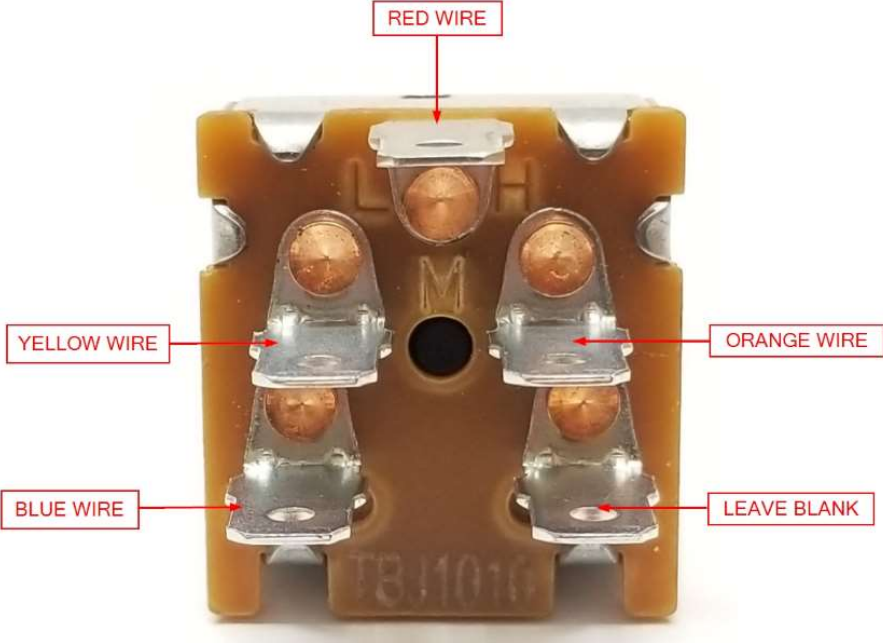
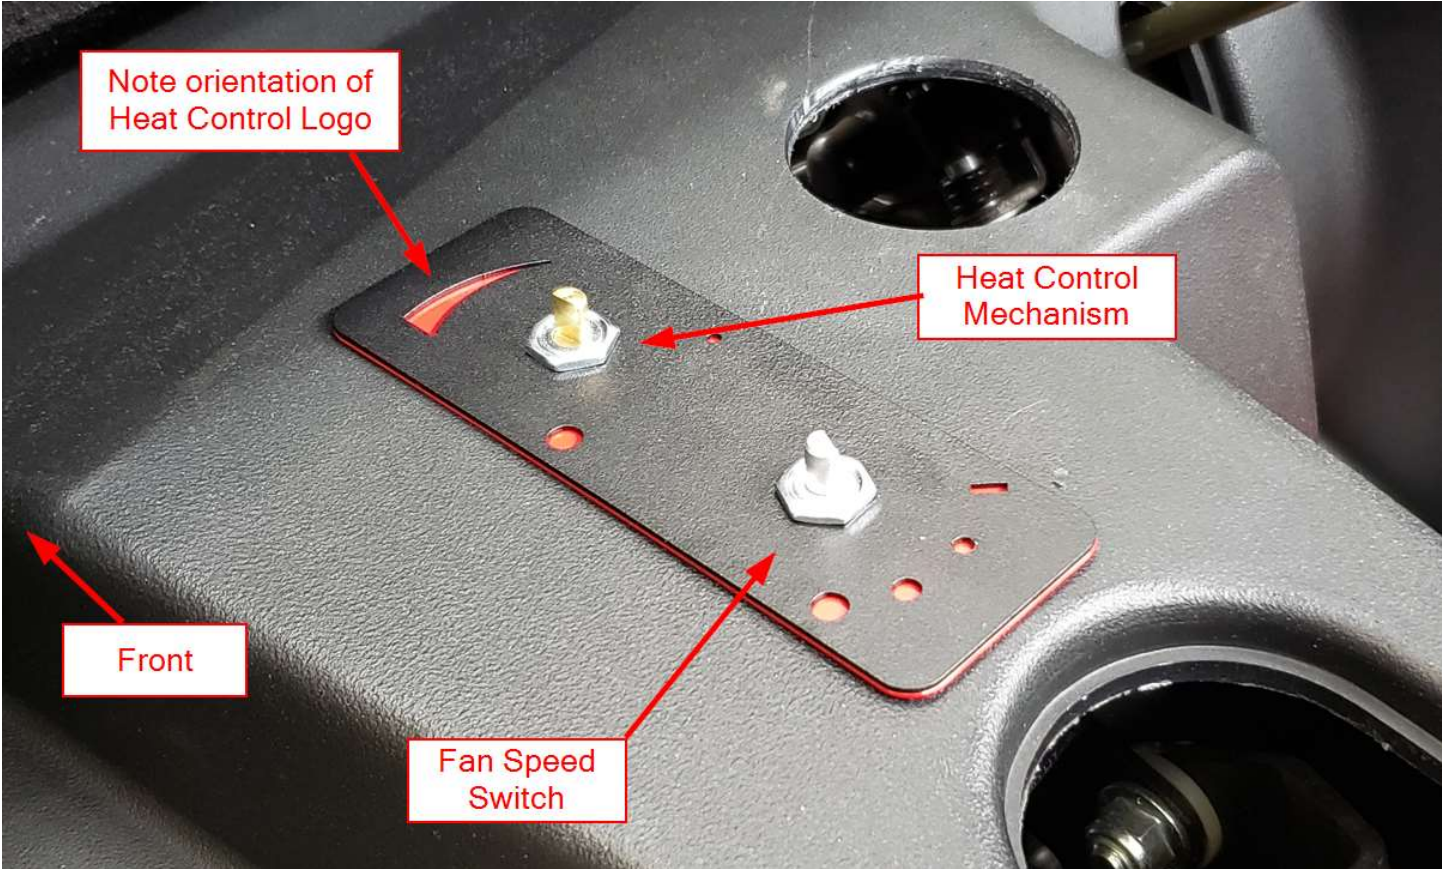
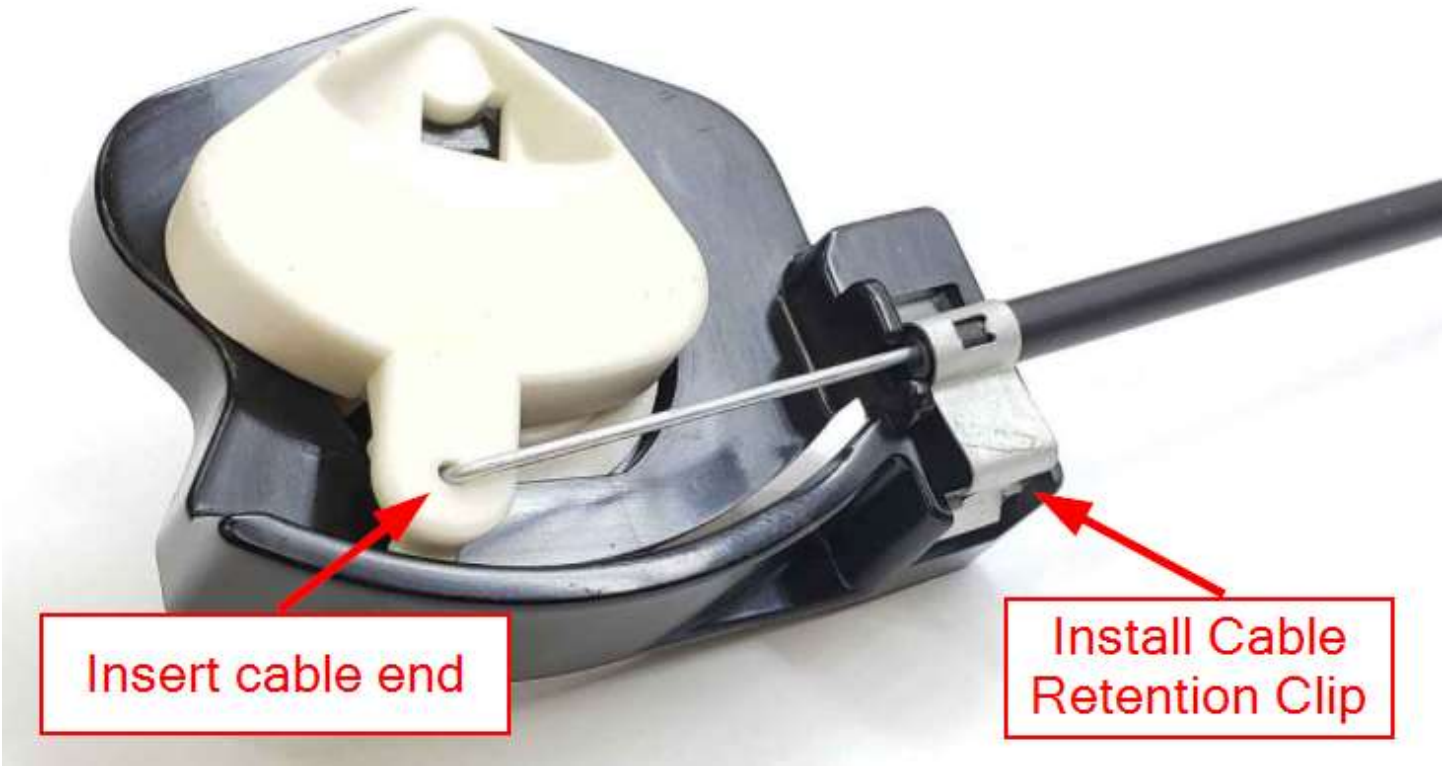
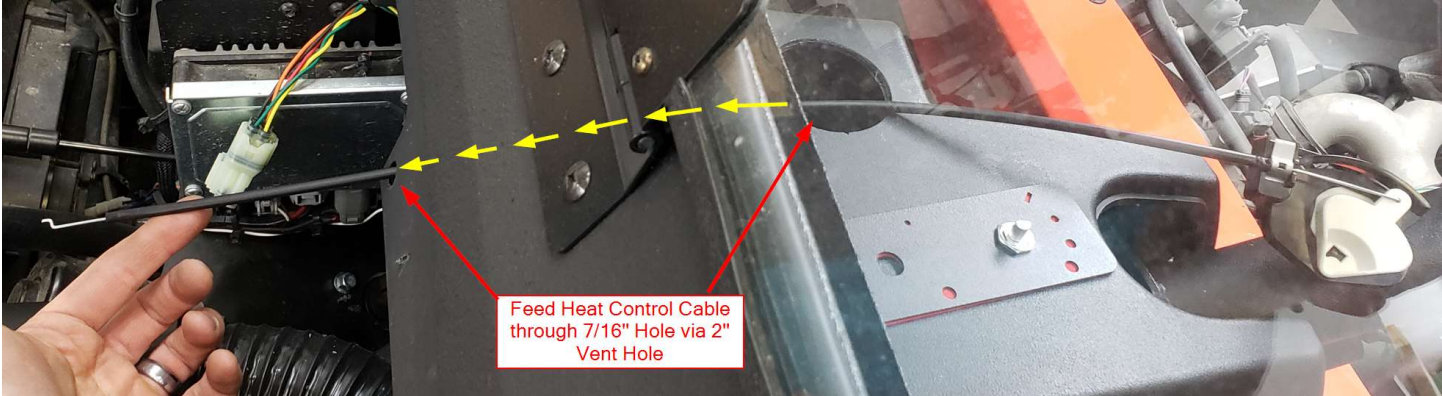

Figure 21
Figure 22
Figure 23
Figure 24
- a. Attach the White 4-Pin Connector to the 4-Pin Connector on the Heater Unit. Connect the 1/4" Female Spade terminals to the 3-Speed Fan Switch as shown Figure 21. Route the switch to the 7/16" hole drilled nearest the driver, push the switch through the hole, place the red bezel over the switch and the black bezel over the red one as shown in Figure 22. Secure the switch and Brackets together using a 7/16" Low Profile Nut and a 9/16" Socket. Pull the rest of the harness toward the front of the vehicle.
- b. Assemble the Heat Control Mechanism as shown in Figure 23. Insert the cable end through the Driver Side 2" Defrost Vent opening shown in Figure 24. Route the cable through the 7/16" Hole. Insert the threaded piece of the Heat Control Mechanism through the Red and Black brackets as shown in Figure 22. Secure the Mechanism with a 7/16" Low Profile Nut and a 9/16" Socket. Press the Heat Control Knob and Speed Control Knob onto the armatures as shown in Figure 30.